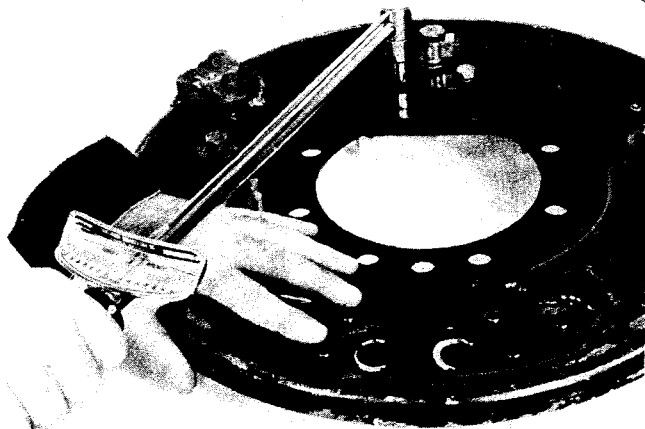

FIG. 120
2. Position brake cylinder on brake disc assembly; secure with two bolts and lockwashers. Tighten bolts to specified torque (Fig. 120).